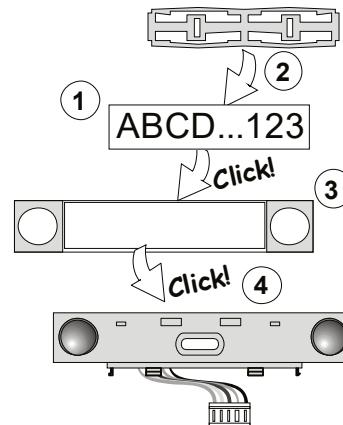

Figure 3: Insertion of a label into a control segment
- When batteries are inserted, the yellow backlit activation button (3) starts to light permanently which indicates that the module has not been enrolled to the system yet.
- Press the backlit activation button (3) – the module is thus enrolled and the yellow LED indicator goes off (this can take a few sec). An enrolment signal can also be sent by inserting the batteries.
- When you have completed installation, insert descriptive labels behind the segment transparent covers and close them, see figure 3. Label printing is a part of the F-Link software (**Devices** window, at the module position – *Internal settings*).